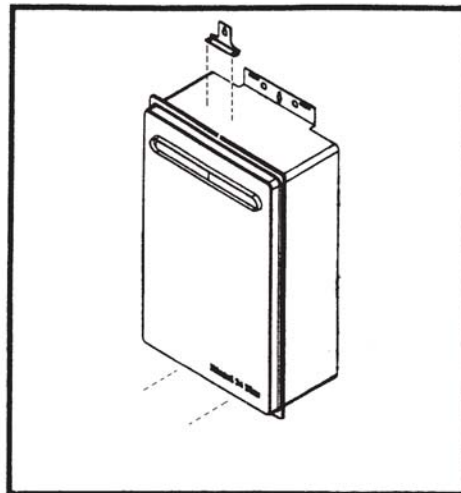

Figure 3
- Attach the top mounting brackets to the water heater as shown in Figure 3, below.
- Position the water heater such that the water heater bottom bracket holes are aligned with the recess box mounting studs and secure with the nuts provided. See Figure 3 for the location of the mounting studs.